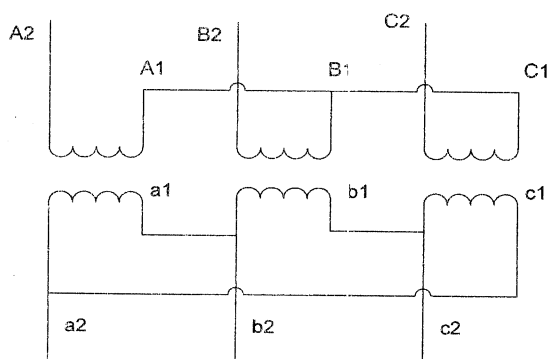

Figure Q1
- b. The winding connections of three-phase two windings star-delta connected transformer is shown in figure Q1.